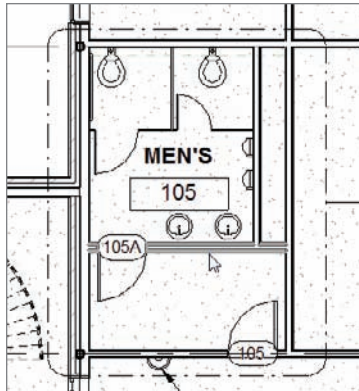

FIGURE 15.13 Selecting the partition within the Men's lavatory
2. Select the wall that divides the Men’s toilet area from the Men’s lavatory entry area, as shown in Figure 15.13.